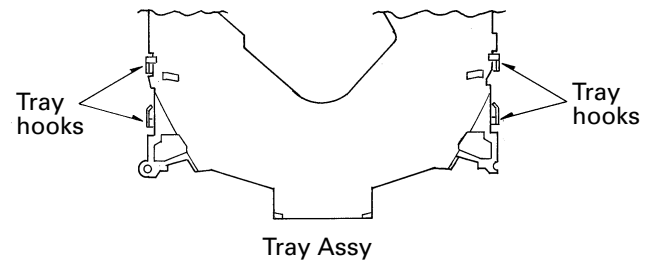

Fig. 5
1. Apply about 6V current to the Cam gear motor until all holes match at the position (A) (elevation OK position).
2. Hook the three springs B temporarily as shown in Fig. 5. While pushing the Tray holder lock arms (right and left) in the direction (C), remove the Tray holder.